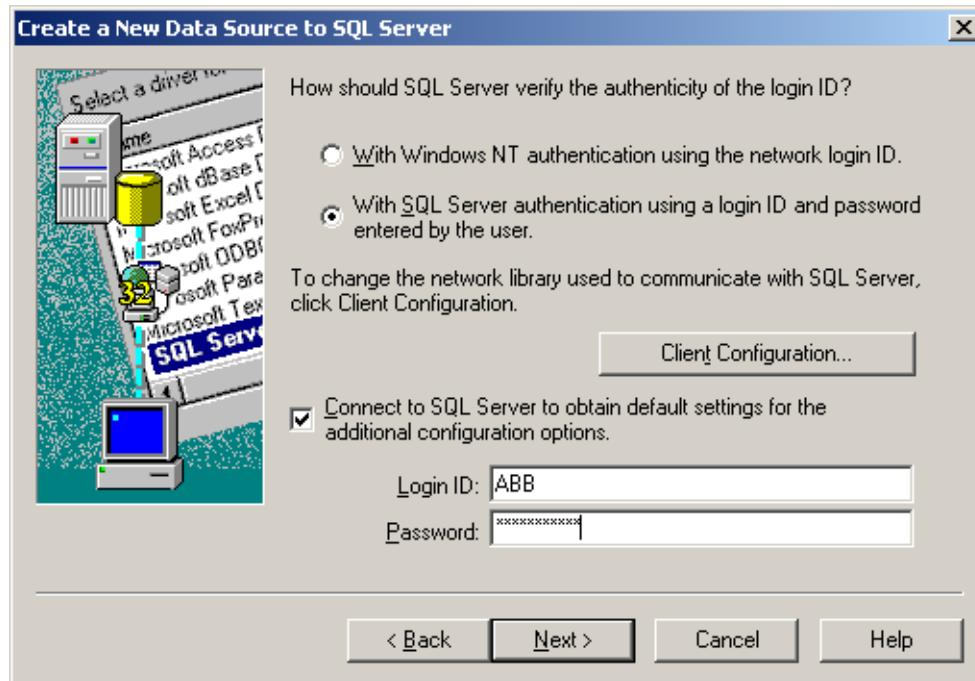

Figure 38: Defining authentication when logging on
9. Select the SQL server authentication and type the user name and password in the **Login ID** and **Password** fields, see Figure 38. Use the same user name as created in Section 5.5.